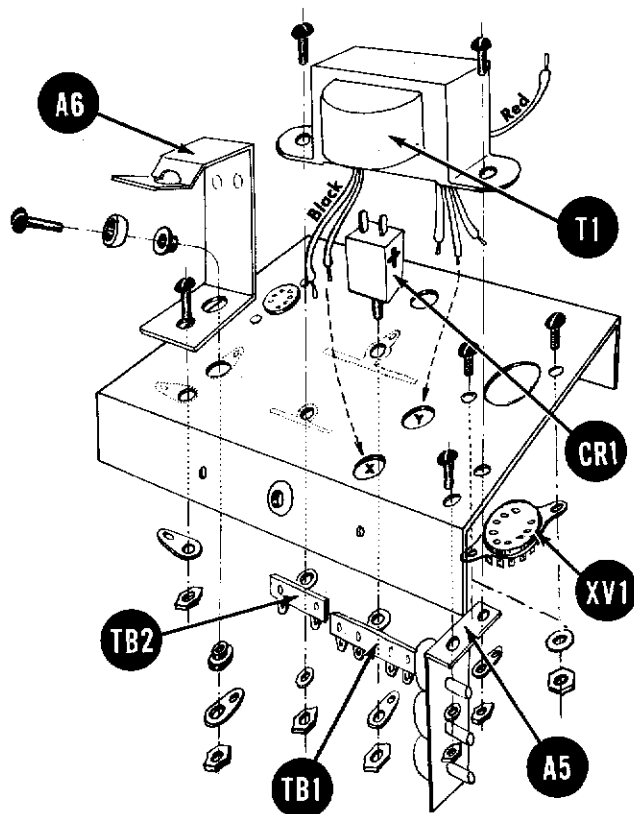
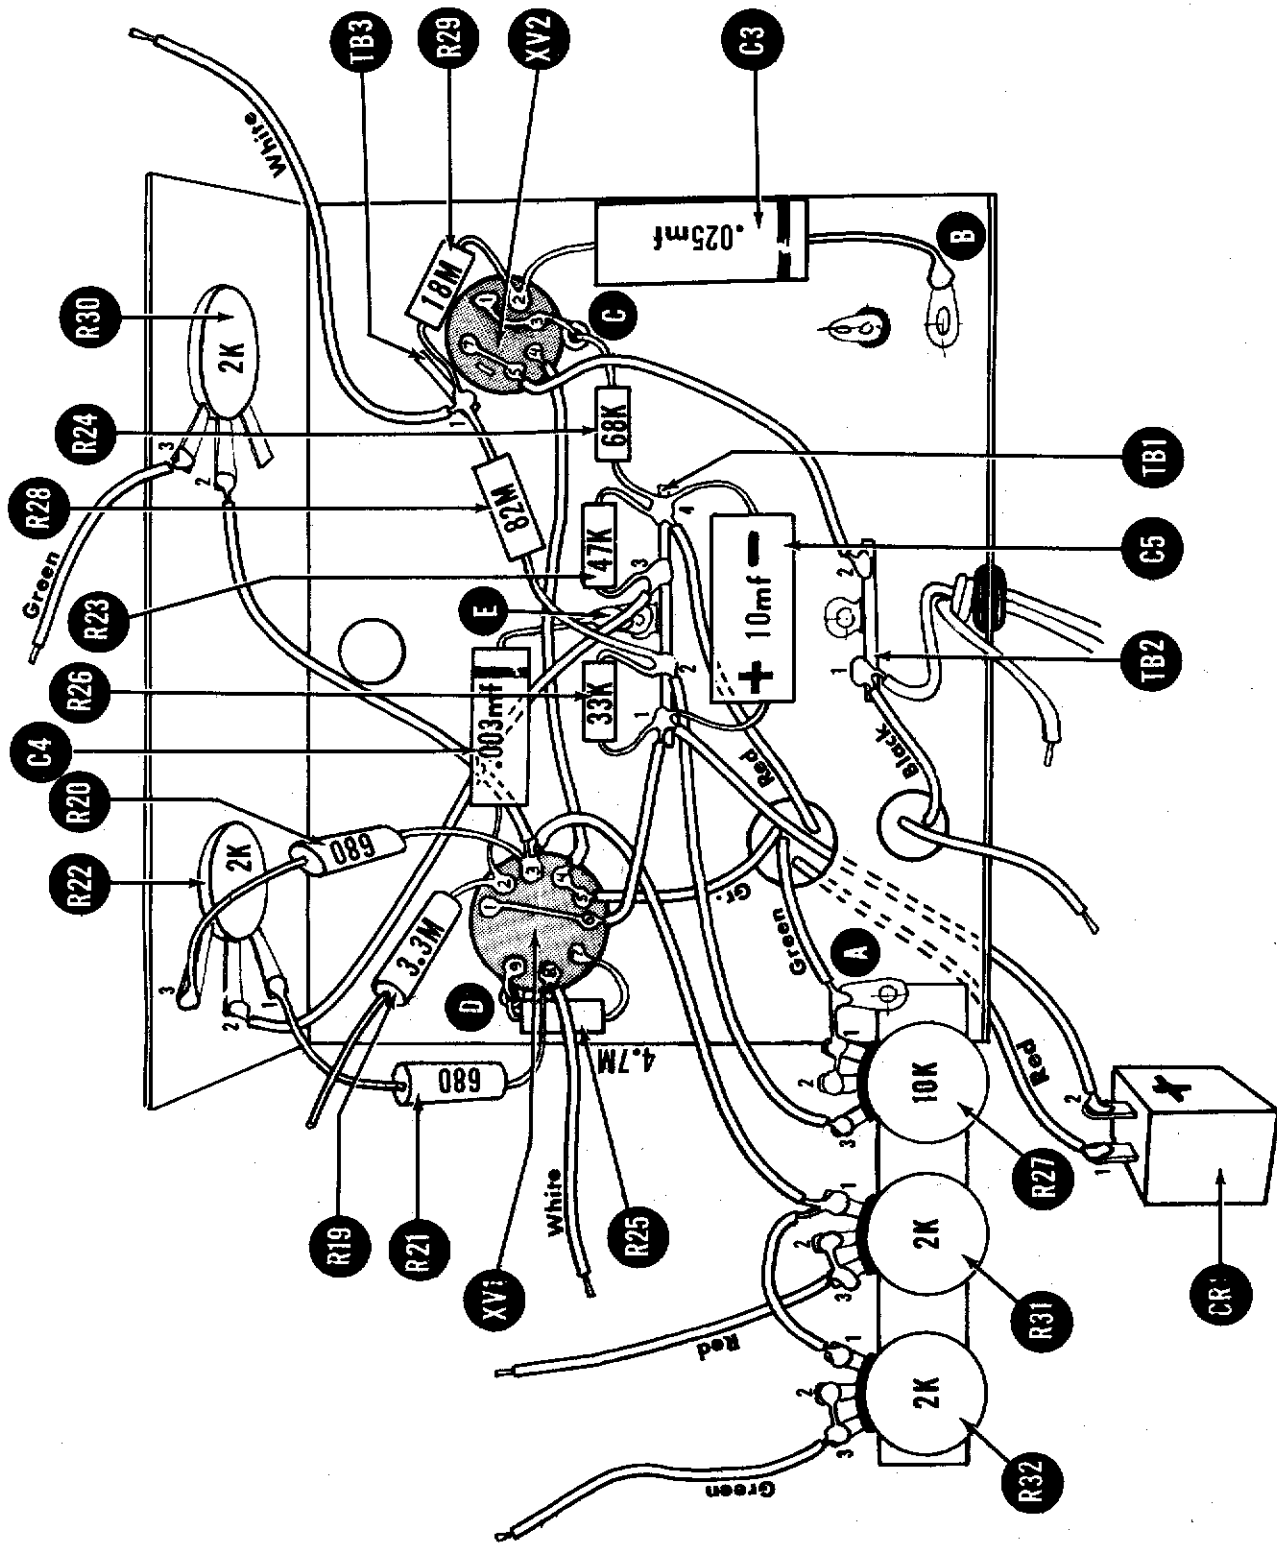

Fig. 2
Fig. 3
- () Fig. 2. Mount the 9 pin miniature socket, XV1, with 2 each #4-40 screws, #4 hex nuts and #4 washers. See Fig. 3 for keyway location.
- () Fig. 2. Mount the 7 pin miniature socket, XV2, with 2 each #4-40 screws, #4 hex nuts, and #4 washers. A one post left terminal strip, TB3, is mounted with XV2. See Fig. 3 for location.
- () Fig. 2. Insert 3/8" rubber grommet for line cord in hole in center of rear chassis apron.
- () Fig. 2. Mount the selenium rectifier CR1 with a 6/32 hex nut. Position the 4 post terminal strip TB1 and the ground lug under the nut as shown.
- () Fig. 2. Mount the battery clip A6 with a 6-32 X 1/4 screw and a 6-32 hex nut. Position gnd. lug under nut as shown. Line up the two empty holes before you tighten nut.
- () Fig. 2. Mount the cup washer to the battery clip. Use a 6-32 X 1/2 screw, two #6 shoulder fiber washers and a 6-32 hex nut. Position a #6 ground lug under nut as shown.
- () Fig. 2. Mount the pre-assembled potentiometer bracket A5 to the chassis. Use a 6-32 X 1/4 screw, a #6 lockwasher and a 6-32 hex nut. Line up two empty holes before you tighten nut.
- () Fig. 2. Mount the power transformer T1 to the chassis. Pass black leads thru hole "X" and the leads on the other side of the transformer thru hole "Y" except one red. Use two 6-32 X 1/4 screws, one #6 lockwasher and two 6-32 hex nuts. Place two post terminal strip TB2 as shown and under other hex nut position a #6 ground lug.
- () Fig. 3. Mount the 2 K Ω Zero Adj. potentiometer R22 with two 3/8 hex nuts, one 3/8 lockwasher and one 3/8 flat washer. This is a temporary mounting.
- () Fig. 3. Likewise, mount the 2 K Ω Ohms Adj. potentiometer R30.
- () Fig. 3. Connect green lead of power transformer T1 to ground lug "A" (C).
- () Fig. 3. Connect a short length of bare wire from gnd lug "A" (S) to R27-2 (S) thru R27-1 (S).
- () Fig. 3. Connect green lead of power transformer T1 to XV1-4 (C) thru XV1-5 (S).
- () Fig. 3. Connect red lead of power transformer T1 to TB1-4 (C).
- () Fig. 3. Connect the other red lead of power transformer T1 to CR1-1 (S). This lead is on top side of chassis.
- () Fig. 3. Connect a length of red hook-up wire from CR1-2 (S) to TB1-1 (C).
- () Fig. 3. Connect black lead of power transformer T1 to TB2-1 (C).
- () Fig. 3. Connect a length of green hook-up wire from XV1-4 (S) to XV2-4 (S).
- () Fig. 3. Connect the positive (+) lead of the 10mf electrolytic capacitor C5 to TB1-1 (C) and the negative lead (-) to TB1-4 (C).
- () Fig. 3. Connect a short length of red hook-up wire from TB1-1 (C) to XV1-1 (S), thru XV1-6 (S).
- () Fig. 3. Connect the 33 K Ω resistor R26 from TB1-1 (S) to TB1-2 (C).
- () Fig. 3. Connect a length of red hook-up wire from TB1-2 (C) to R27-3 (S).
- () Fig. 3. Connect the 82 M Ω resistor R28 from TB1-2 (S) to TB3-1 (C).
- () Fig. 3. Connect the 18 M Ω resistor R29 from TB3-1 (C) to XV2-2 (C). Use spaghetti.
- () Fig. 3. Connect a 5 1/2 in. length of white hook-up wire to TB3-1 (S).
- () Fig. 3. Connect a .025 mf capacitor C3 from XV2-2 (S) to ground lug "B" (S). Use spaghetti.
- () Fig. 3. Connect a short length of bare wire from XV2-1 (S) to lug "C" (C) on XV2 thru XV2-3 (S).
- () Fig. 3. Connect the 68K Ω resistor R24 from TB1-4 (C) to lug "C" (S) on XV2.
- () Fig. 3. Connect the 47 K Ω resistor R23 from TB1-4 (S) to TB1-3 (C).
- () Fig. 3. Connect a length of white hook-up wire from TB1-3 (S) to R22-2 (S).